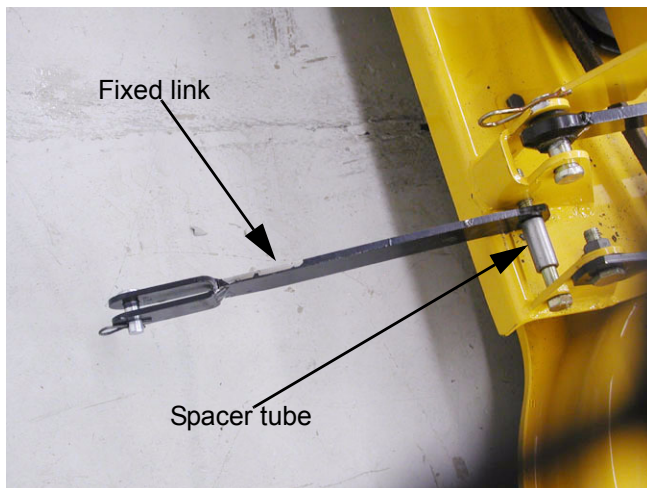

Figure 3.3
- 3.3. Install the fixed lift link between the inner and outer brackets welded near the back of the deck, on the right side. See Figure 3.3.